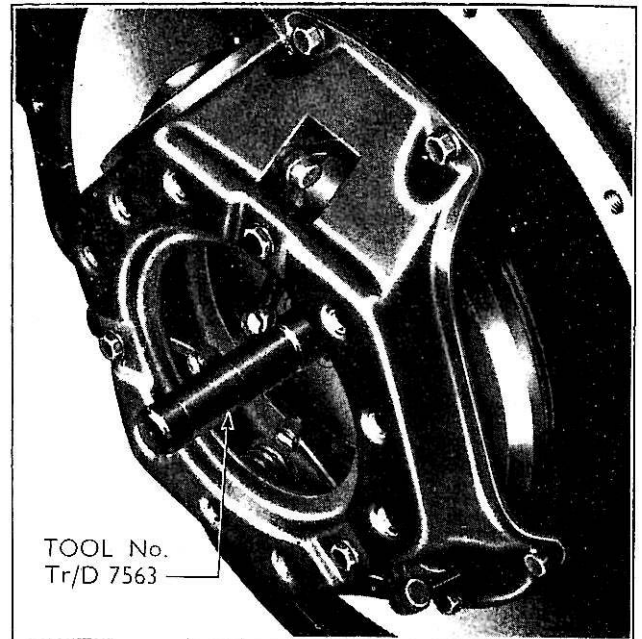

Fig. 149
- 2 Insert the clutch disc locator (tool No. Tr/D 7563) through the splines of the clutch disc hub into the clutch pilot bearing. (See Fig. 149.)